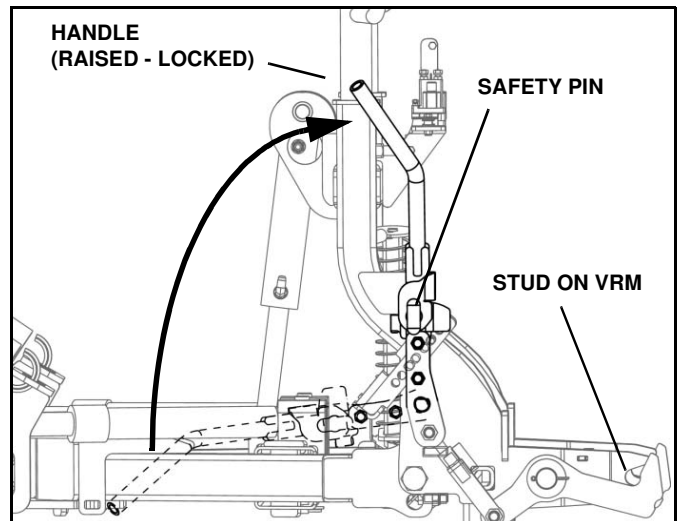

Figure 1-40
3. Pull up engagement handle to engage plow onto stud on VRM, ensuring that the safety pin is fully engaged. (See Figure 1-40).